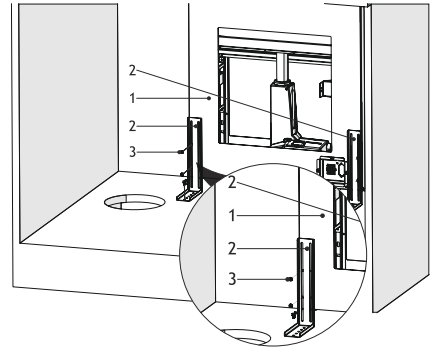

Fig. 14
4. ➤ ■ Install the housing from the lower side using 2 long brackets supplied in installation accessories (Fig. 14)